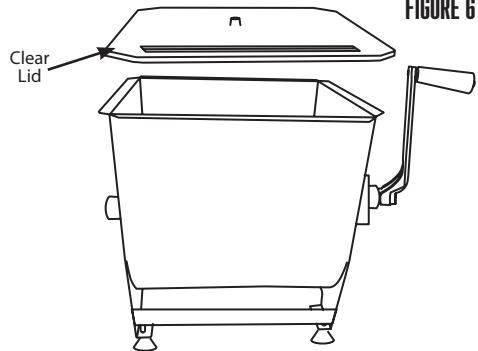

FIGURE 6
11. Install the Clear Lid (FIGURE 6). **DO NOT** use the Meat Mixer without the Clear Lid in place. Severe injury could result!